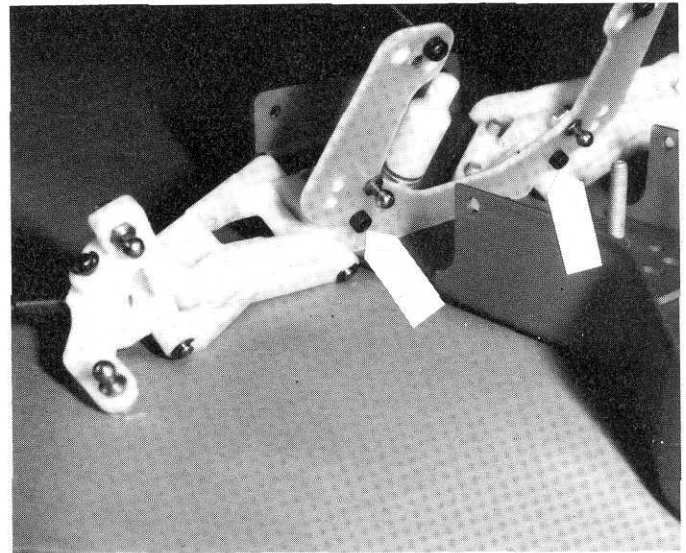

Fig. 15
□ **Fig. 15** From Bag 6-1 take the 2 short 4/40 screws and install the shock strut onto the 2 front suspension mounts. If the holes don't line up, loosen the aluminum screws in the chassis, align the parts and tighten all the screws.